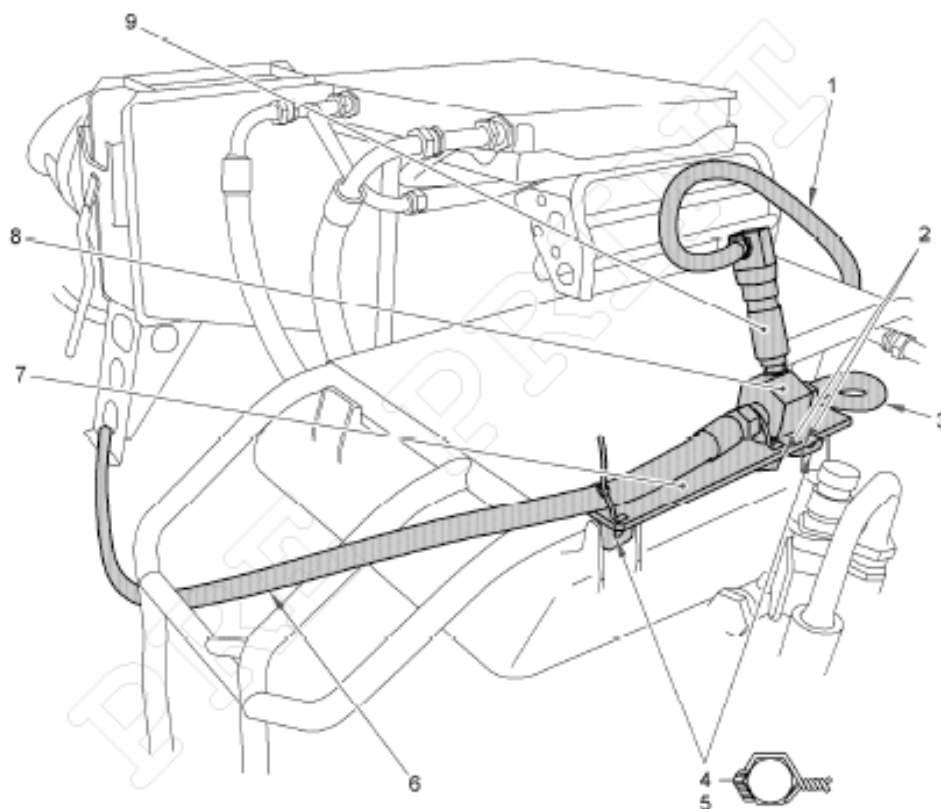
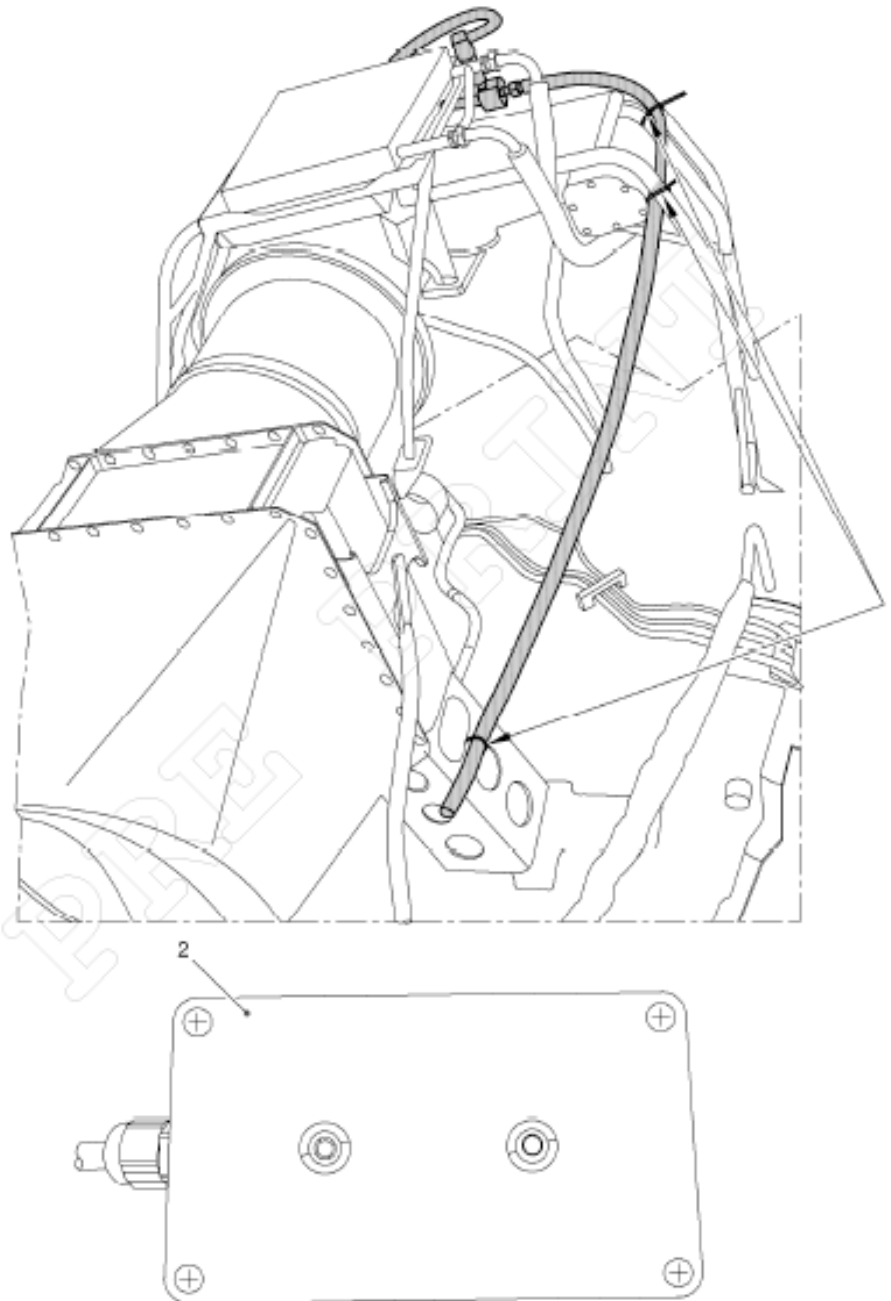

Figure 12
Figure 13
- Disconnect the [CONNECTOR 332A979001.12] (1) (Figure 12) from the [SENSOR 2600BGA4001G3UA] (9).
- Disconnect the [SENSOR 2600BGA4001G3UA] (9) from the [KENT CHAMBER 332A979001.10] (8).
- Loosen the clamps (1) (Figure 13) and remove the [PIPE GP 60 332A979001.61] (6) (Figure 12).
- Disconnect the air-air exchanger pipe (3) from the [KENT CHAMBER 332A979001.10] (8).
- Remove the attachment screws (4) of the reservoir.